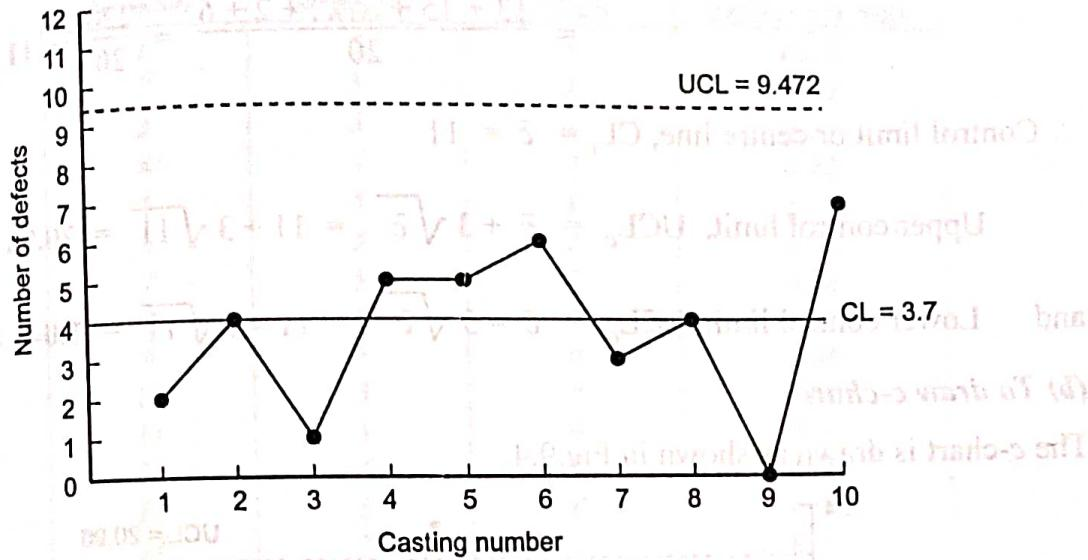

Fig. 9.3.
The  $c$ -chart can be drawn as shown in Fig.9.3.
**Conclusion :** From Fig.9.3, it is clear that all the points lie within the control limits. Therefore the process is in control. Ans.